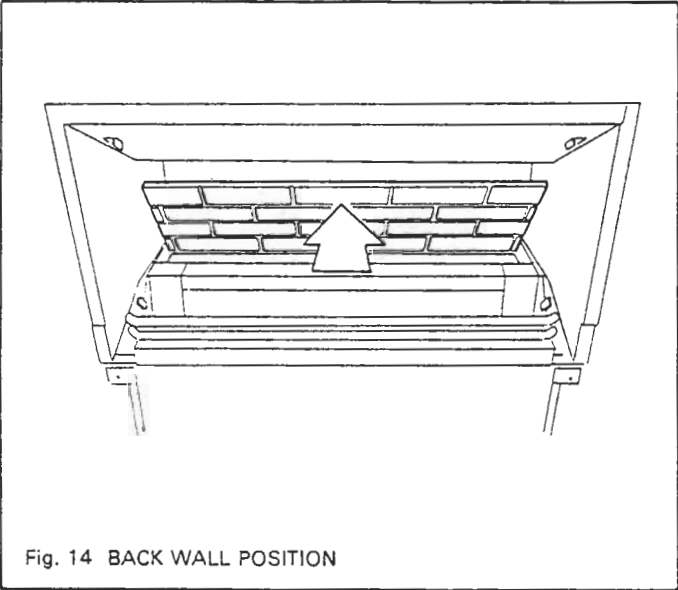

Fig. 14 BACK WALL POSITION
6.1 Place the ceramic back wall in position at the back of the firebox. Make sure that the brick pattern is the right way up so that it will align with the side walls pattern (see fig. 14).